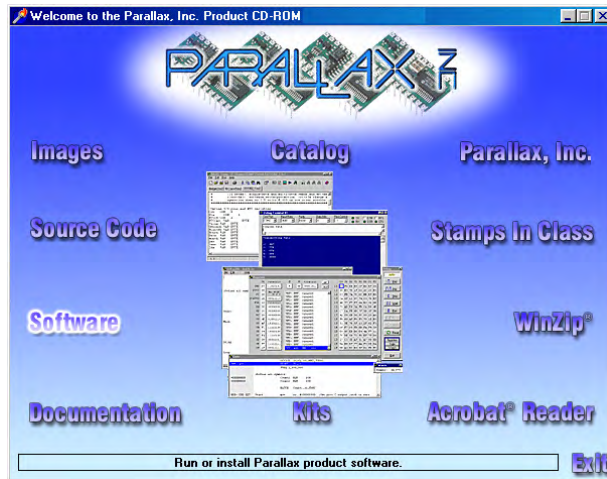

Figure 1-14
- ✓ Place the Parallax CD into your computer's CD drive. The Parallax CD Welcome application shown in Figure 1-14 should run as soon as you load the CD into your computer's CD drive.
- ✓ Click the *Software* link shown in Figure 1-14.